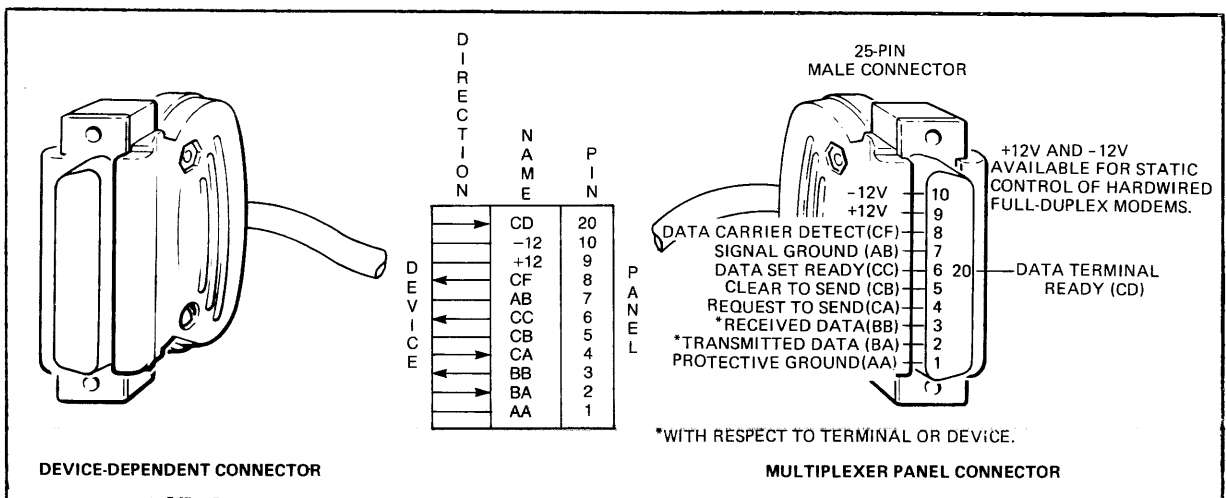

Figure 4-3. RS-232-C Panel-to-Device Cable Wiring Diagram.
Figure 4-3 illustrates the RS-232-C Panel device connector pin assignments that are representative of each port, J0 through J7. Note that in keeping with EIA RS-232-C standards when referring to the terminal or I/O device, Received Data (BB) and Transmitted Data (BA) should be referenced with respect to the terminal or device. In other words the Transmitted Data (BA) at the device end is actually the Receive Data (RD-) with respect to the MUX interface. By the same convention, Received Data (BB) at the device is actually Send Data (SD-) at the MUX interface. A standard 25-pin male connector (shown in Figure 4-3) must be attached to the RS-232-C Panel end of the cable and your device compatible connector at the other. It is recommended that such a cable not exceed 15 metres (50 ft) in length by the RS-232-C standard. Figure 4-3 gives the pin-to-signal relationships for the 25-pin connector at the RS-232-C Panel end of the fabricated cable.